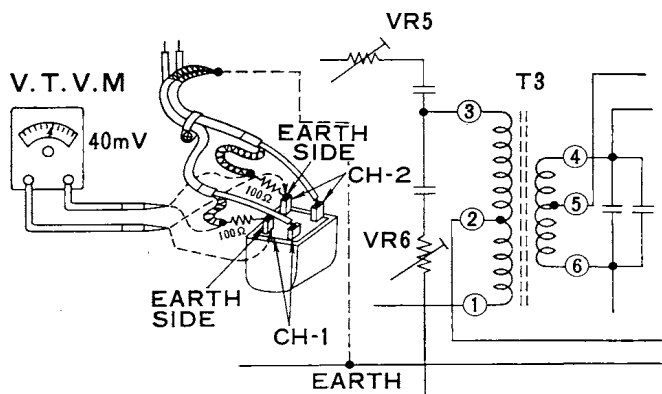

Fig. 14
- Measure the voltage after connecting V.T.V.M. (vacuum tube voltmeter) as shown in Fig.14, and adjust the semi-fixed resistors (VR5, VR6) so that the voltage shows the value indicated below.